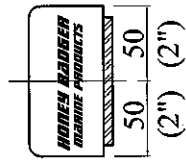

Fig. 1
- Position Boat Bunk center on mounting pad. Fig 1.